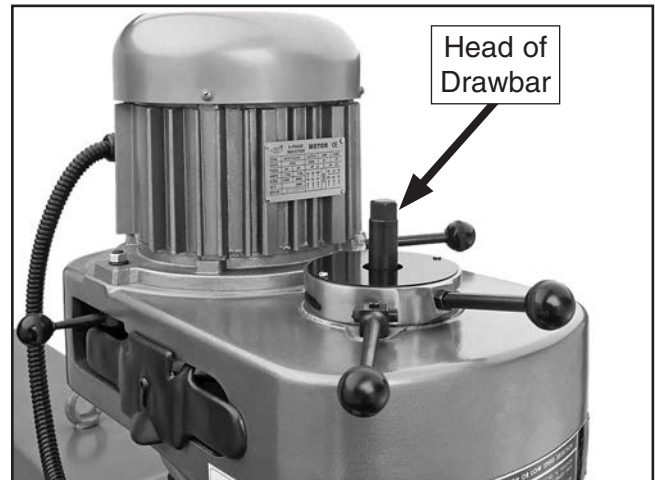

Figure 42. Drawbar loaded (Model G0747 shown).
5. With one hand holding the tool in place, insert the drawbar into the spindle from the top of the head, then thread it into the tool (see **Figure 42**).